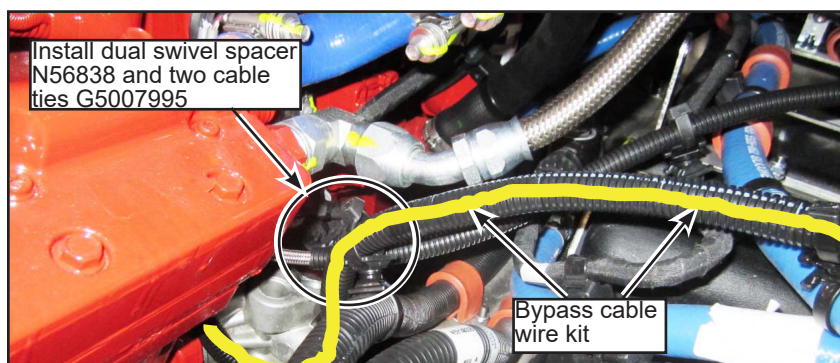

Figure 7 - Install the Dual Swivel Spacer with Two Cable Ties
- 1.7. From the ECM connector, route the wire kit upwards and install the first N56836 dual swivel spacer with two G5007995 cable ties (see Figure 7).